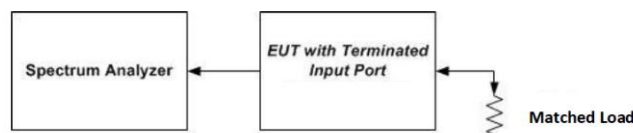
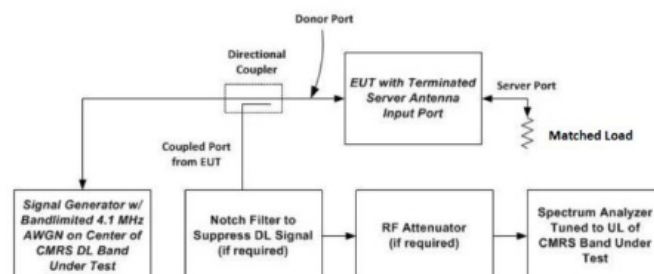

Figure 3 – Noise limit test setup
Figure 4 – Test setup for uplink noise power measurement in the presence of a downlink signal
a) Connect the EUT to the test equipment as shown in Figure 3. Begin with the uplink output (donor) port connected to the spectrum analyzer. When measuring downlink noise, connect the downlink output (server) port to the spectrum analyzer.
h) Connect the EUT to the test equipment as shown in Figure 4 for uplink noise power measurement in the presence a downlink signal. Affirm the coupled path of the RF coupler is connected to the spectrum analyzer.
m) Measure the maximum transmitter noise power level while varying the downlink signal generator output level from -90 dBm to -20 dBm , as measured at the input port (i.e., downlink signal level at the booster donor port node of Figure 4), in 1 dB steps inside the RSSI-dependent region, and in 10 dB steps outside the RSSI-dependent region. Report the six values closest to the limit, with at least two points within the RSSI-dependent region of the limit. See Appendix D for noise limits graphs.
NOTE—Some signal boosters will require a signal generator input because they will not operate unless a signal is received at the input terminals. If this is the case, for the setups shown in Figure 3 and Figure 4 connect a second signal generator at the server port, then cycle the RF output of the second signal generator to simulate this function.
Variable uplink noise timing is to be measured as follows, using the test setup shown in Figure 4.
- Connect the EUT to the test equipment as shown in Figure 3 with the uplink output (donor) port connected to the spectrum analyzer.